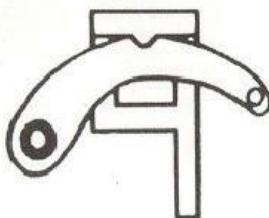

Figure 1.
1. Following all safety precautions, place the foot of the jack beneath the load. Lift the Reversing Latch (17) to its "UP" position and ensure it is locked in place, i.e. the indentation on the Latch is firmly engaged with the notch on the Reversing Switch (15), refer to fig. 1. Jack up the nose until it comes into contact with the load at the desired point of lift (consult the car manufacturer's operation guide). Pause at this stage and check to ensure there are no obstacles to a clean lift.
2. Pull down firmly and evenly on the handle and observe the load rising. As the handle is pulled down you will hear the climbing pin (13) click into place as it locates in a hole in the steel bar (3). At this point relax the handle allowing the pin (13) to take the load. Raise the handle to the top of its stroke to take a fresh move and pump the handle once again.